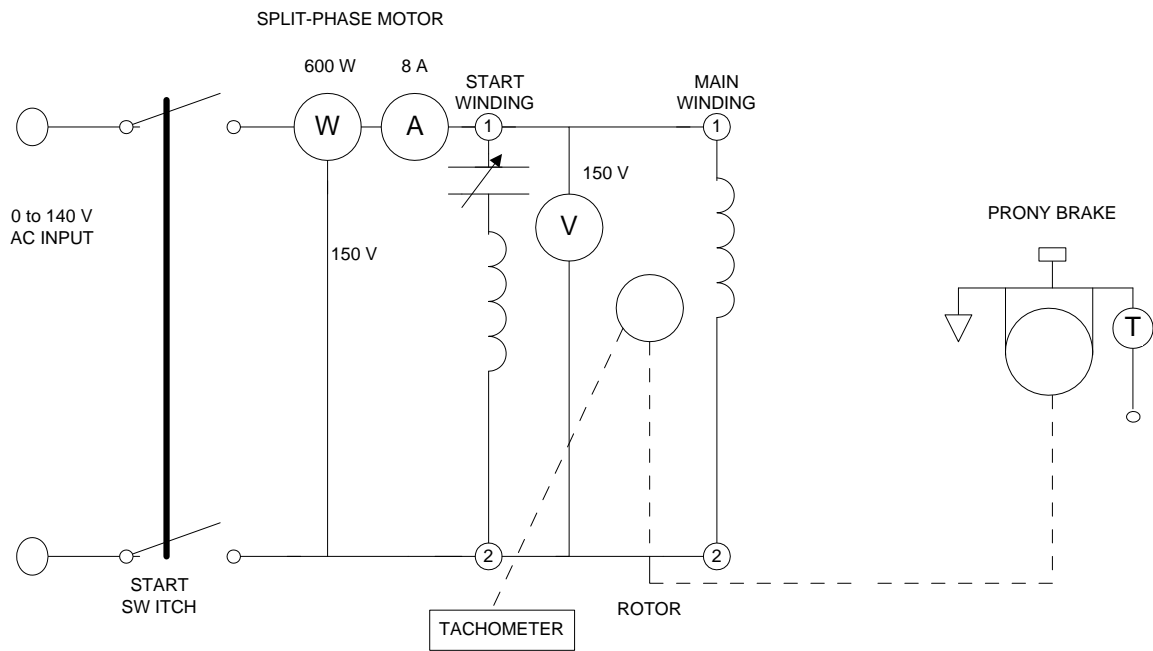

Figure 2
6. Couple the Split-Phase Motor to the Prony Brake and make the connections as shown in figure 2. Adjust the variable AC supply to 60 volts. Adjust the Pronv Brake belt so that it is slack.